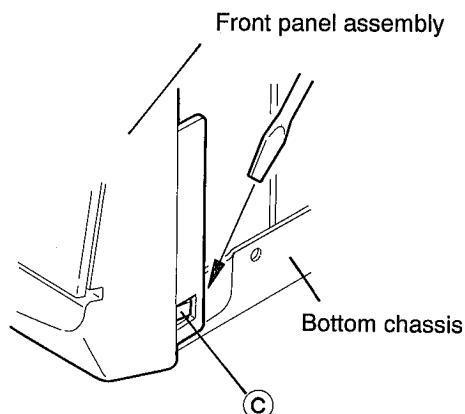

Fig.5-6
4. Use a screwdriver, etc., to disengage clips © and ® from the side panels of the main unit.(See Figs. 5-6, 5-7)